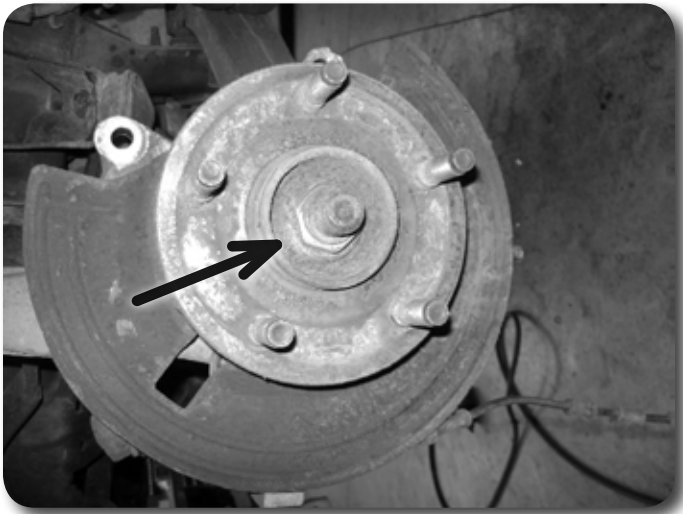

Figure 5
14. Remove the hub axle nut and save. Figure 5